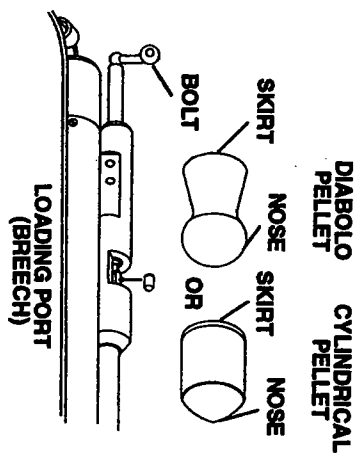

FIG. 4
- Place one pellet, nose forward, in the loading port (breach) (Fig. 4).